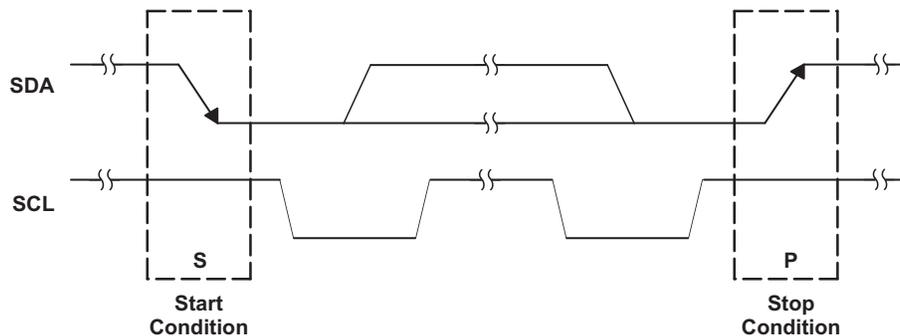
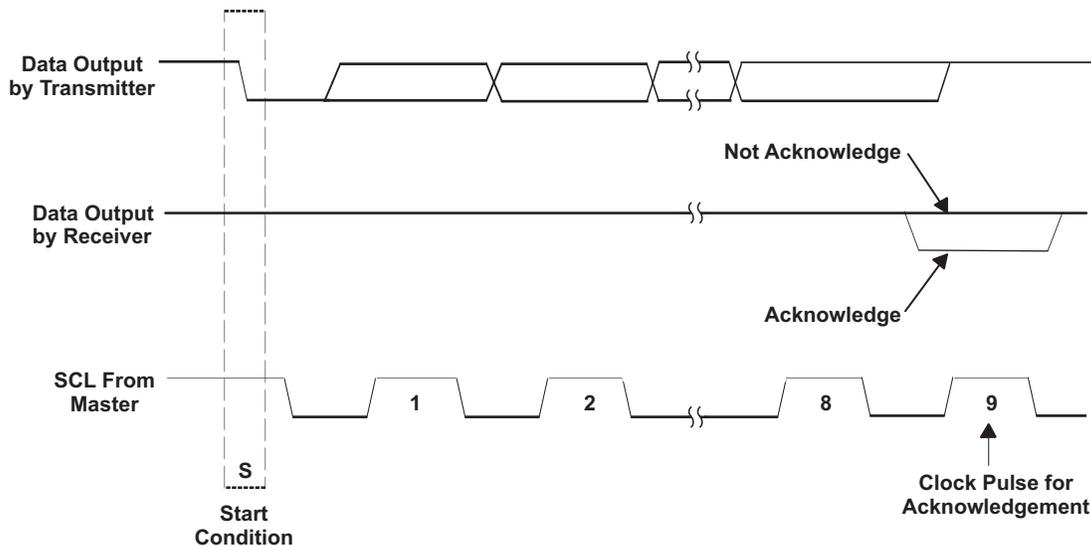

Figure 23. I²C Start and Stop Conditions
Figure 25. I²C Acknowledge
The basic I²C start and stop access cycles are shown in Figure 23. The basic access cycle consists of the following:
- The master initiates data transfer by generating a start condition. The start condition is when a high-to-low transition occurs on the SDA line while SCL is high, as shown in Figure 23. All I²C-compatible devices should recognize a start condition.
- The master then generates the SCL pulses and transmits the 7-bit address and the read/write direction bit R/W on the SDA line. During all transmissions, the master ensures that data is valid. A valid data condition requires the SDA line to be stable during the entire high period of the clock pulse (see Figure 23). All devices recognize the address sent by the master and compare it to their internal fixed addresses. Only the slave device with a matching address generates an acknowledge (see Figure 25) by pulling the SDA line low during the entire high period of the ninth SCL cycle. On detecting this acknowledge, the master knows that a communication link with a slave has been established.
- To signal the end of the data transfer, the master generates a stop condition by pulling the SDA line from low to high while the SCL line is high (see Figure 23). This releases the bus and stops the communication link with the addressed slave. All I²C compatible devices must recognize the stop condition. Upon the receipt of a stop condition, all devices know that the bus is released, and they wait for a start condition followed by a matching address.